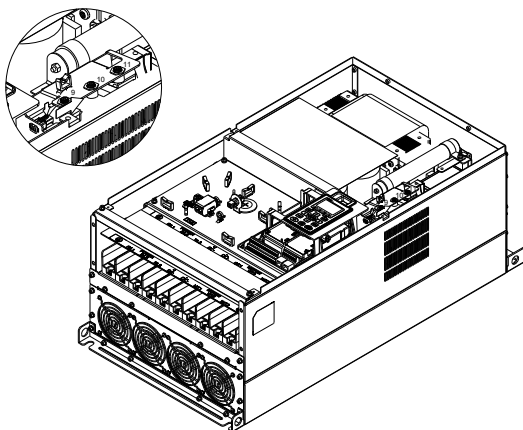
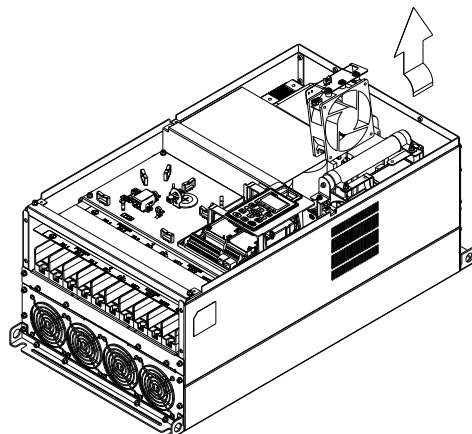

Figure 3
Figure 4
(3) Loosen the screws and remove the fan. (figure 3 and figure 4) Screw torque: 24~26 kg-cm / [20.8~22.6 lb-in.] / [2.4~2.5 Nm]